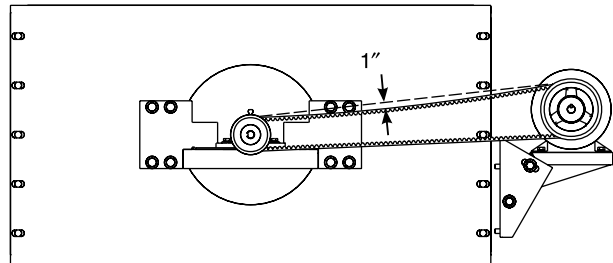

Figure 4-39.
2. The fan belt should deflect no less than 1" (25mm) at the center (Figure 4-39) and have no cracks or excessive wear.